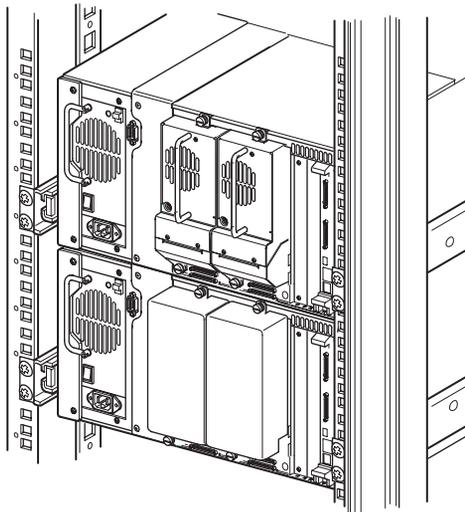

Figure 2–6: MSL5026/MSL5030 library installation (9000 rack enclosure shown)
2. Remove the blank panel or drive shoe assembly 1 from the bay adjacent to the PTM cover plate opening (see Figure 2–7).